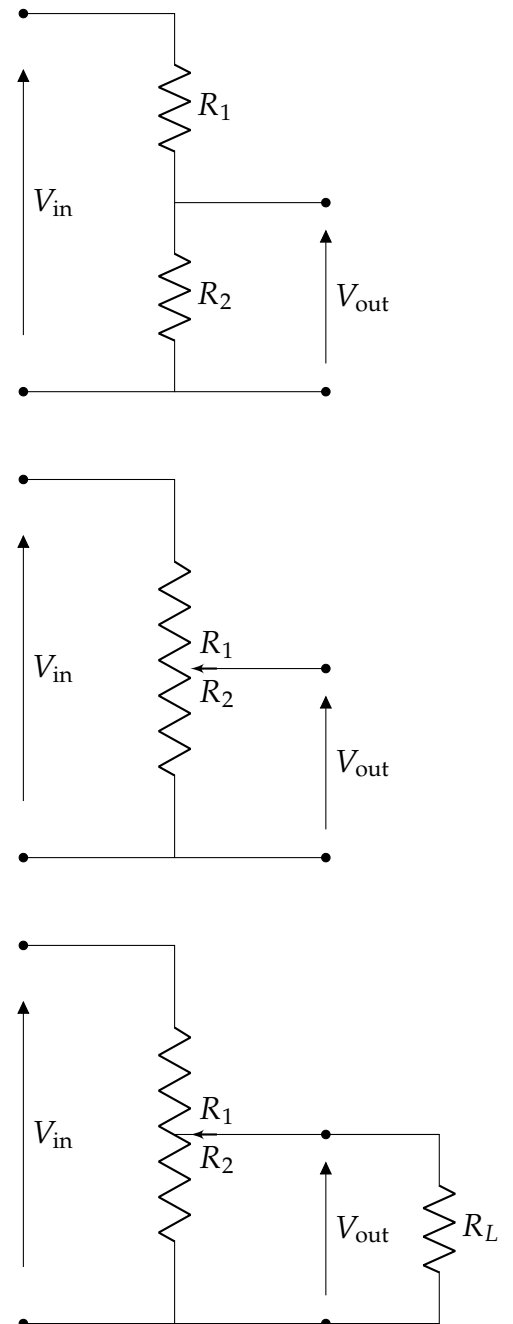
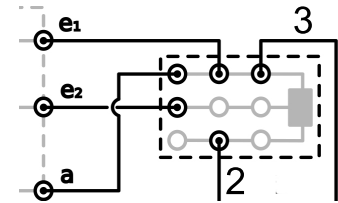

Figure 3.3: Voltage dividers. **(Top)** With fixed resistors. **(Middle)** With variable resistance (potentiometer). **(Bottom)** With variable resistance and a load R_L .
Figure 3.8: Circuit diagram for connecting the voltage divider.
The so-called voltage divider is among the most common electrical connections. You must use it in the experiment. In its simplest form, the voltage divider looks like the top circuit in Figure 3.3.
The voltage divider can be made variable by replacing R_1 and R_2 with a potentiometer, a resistor with variable resistance, as shown in the middle circuit in Figure 3.3. Together with a fixed voltage source, this provides an opportunity to create a cheap variable voltage source.
TIP: What happens to V_{out} when you start drawing power from the output? See the bottom circuit in Figure 3.3. The resulting resistance across the parallel connection of R_2 and R_L is denoted $R_2 || R_L$ and is equal to $(R_2 R_L) / (R_2 + R_L)$.
In the setup so far, you have put both deflection plates at the same voltage, namely the anode voltage U_a . To obtain deflection, one plate is placed on a somewhat lower voltage. This is done by adding a voltage divider to the anode voltage; the principle of voltage division is shown in Figure 3.3. Here you have to make changes to the connection. The anode voltage (3) should now be connected with a junction box according to the diagram in Figure 3.8 shows changes you must make from the connection in Figure 3.6 where the deflection potential was zero. The connection between e_1 and e_2 is removed.
Connect the deflection potential according to Figure 3.8.